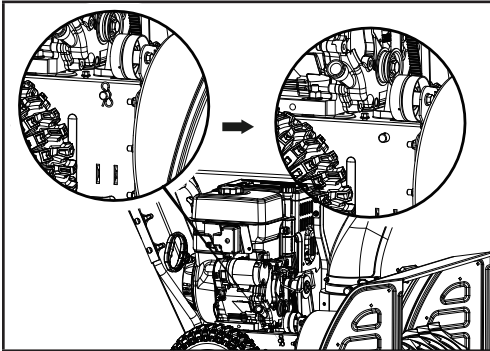
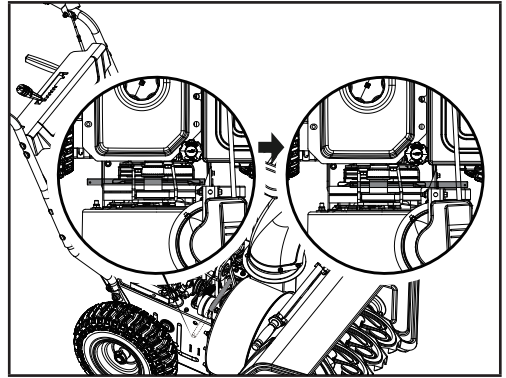

Figure 25A
Figure 25B
2. Remove clip and washer (Fig. 25A), pull support rod ½ way out from other side of snowblower (Fig. 25B).